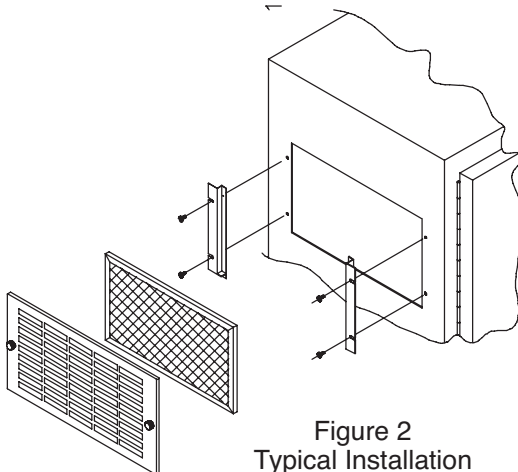

Figure 2
4. Install the exhaust grille as shown in figure 2.